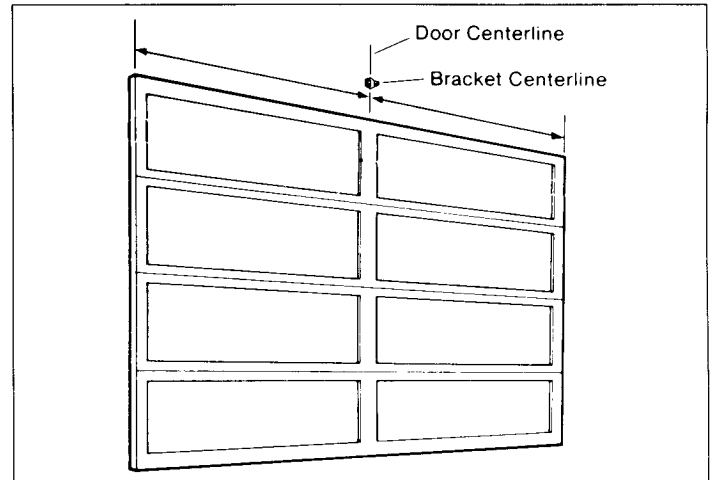

Figure 11
Step 19: Determine center line of door (see Figure 11). Mark center line on header and top of door.